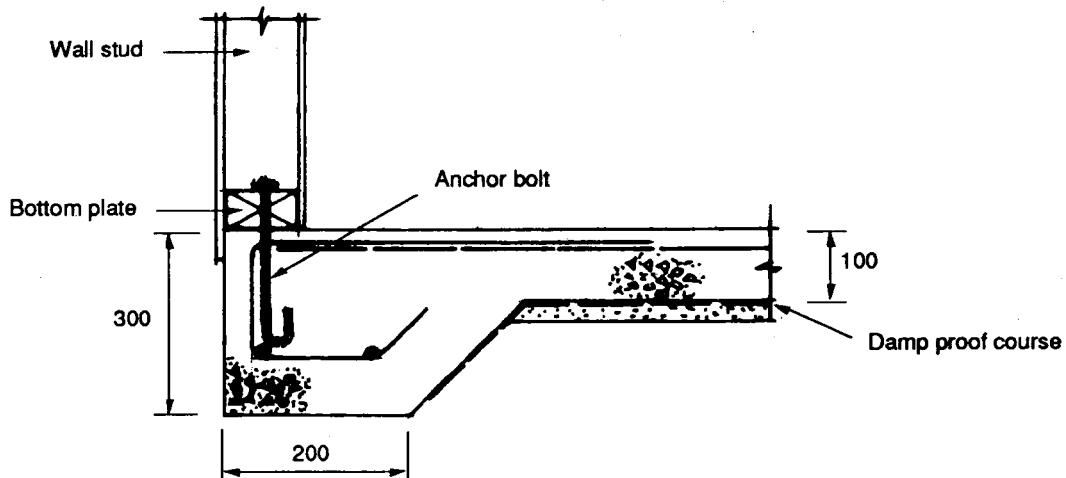

FIGURE H4.1 EXTERNAL WALL FOOTING
100 mm thick slab on compacted granular fill reinforced with F62 (665) mesh or D10 bars at 350 mm centres both ways. Refer to Figures H4.1 and H4.2 for details.